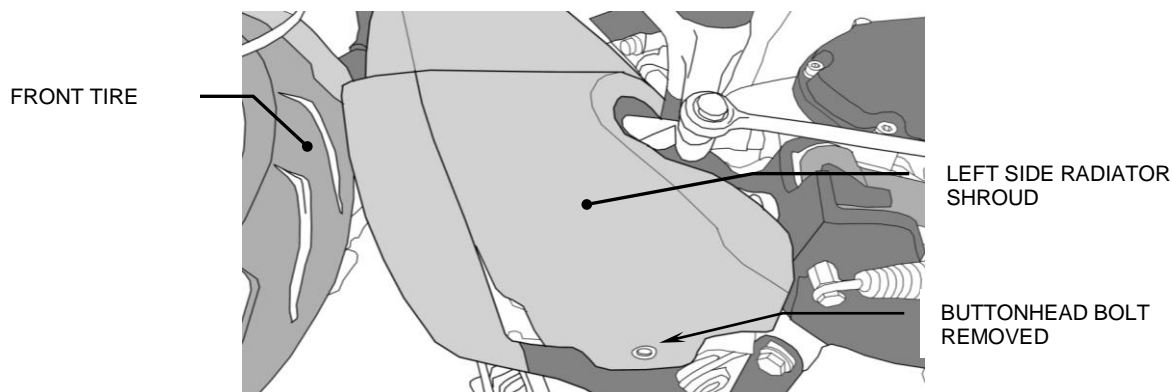
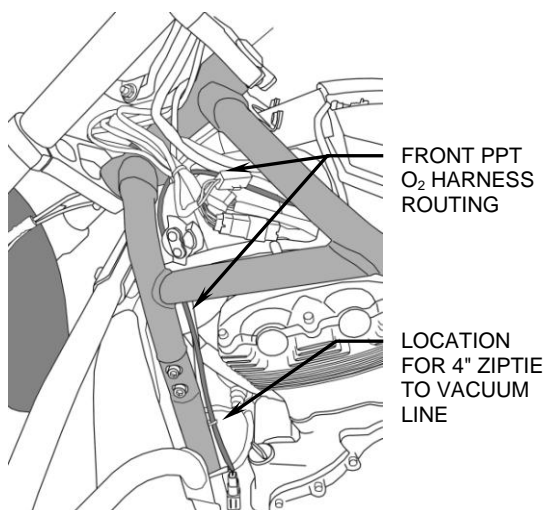
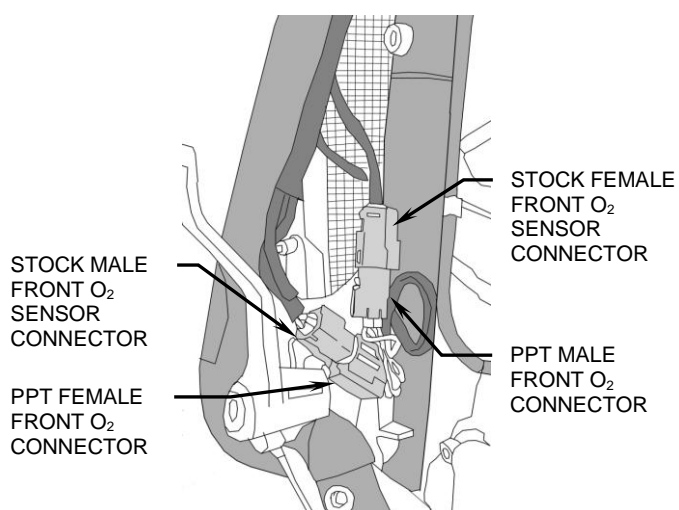

FIGURE 4
FIGURE 5
FIGURE 6
5. Route the long front oxygen sensor harness along the upper left frame rail next to existing harnesses and continue forward under connectors which were exposed under the cover removed in Step 3. Remove the buttonhead socket screw from the bottom of the left radiator shroud to allow shroud to be pulled outward, Figure 4, to expose the light gray front O₂ sensor connectors. Continue routing harness down next to vacuum line and then outward towards left radiator shroud, see Figure 5. Disengage connectors and mate corresponding male and female connectors from motorcycle to PPT, see Figure 6. Tuck the connectors back between the frame rail and shroud neatly.
6. Install (3) 6" zip ties to secure front O₂ sensor harness to existing wire loom along left upper frame rail. Use (1) 4" zip tie to secure harness to vacuum line. Reinstall buttonhead socket screw at bottom of left radiator shroud. Use blue medium strength thread locker to ensure screw stays tight.